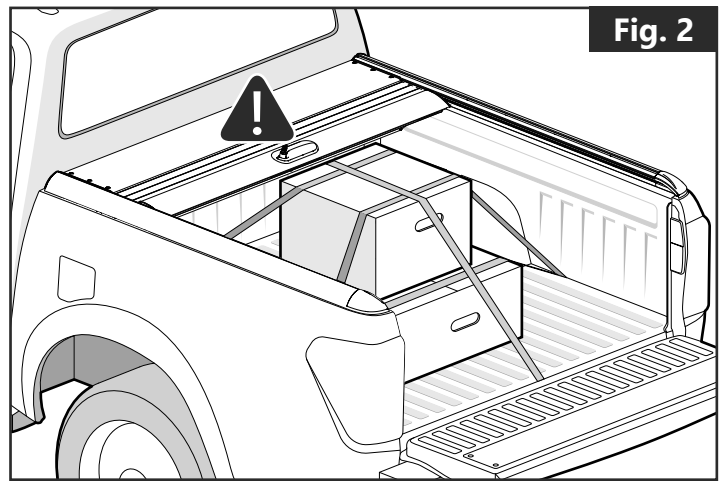

Fig. 2
- Goods in the bed must be secured during transportation to prevent damage on the structural parts of Roll cover (especially the canister). **(Fig. 2)**